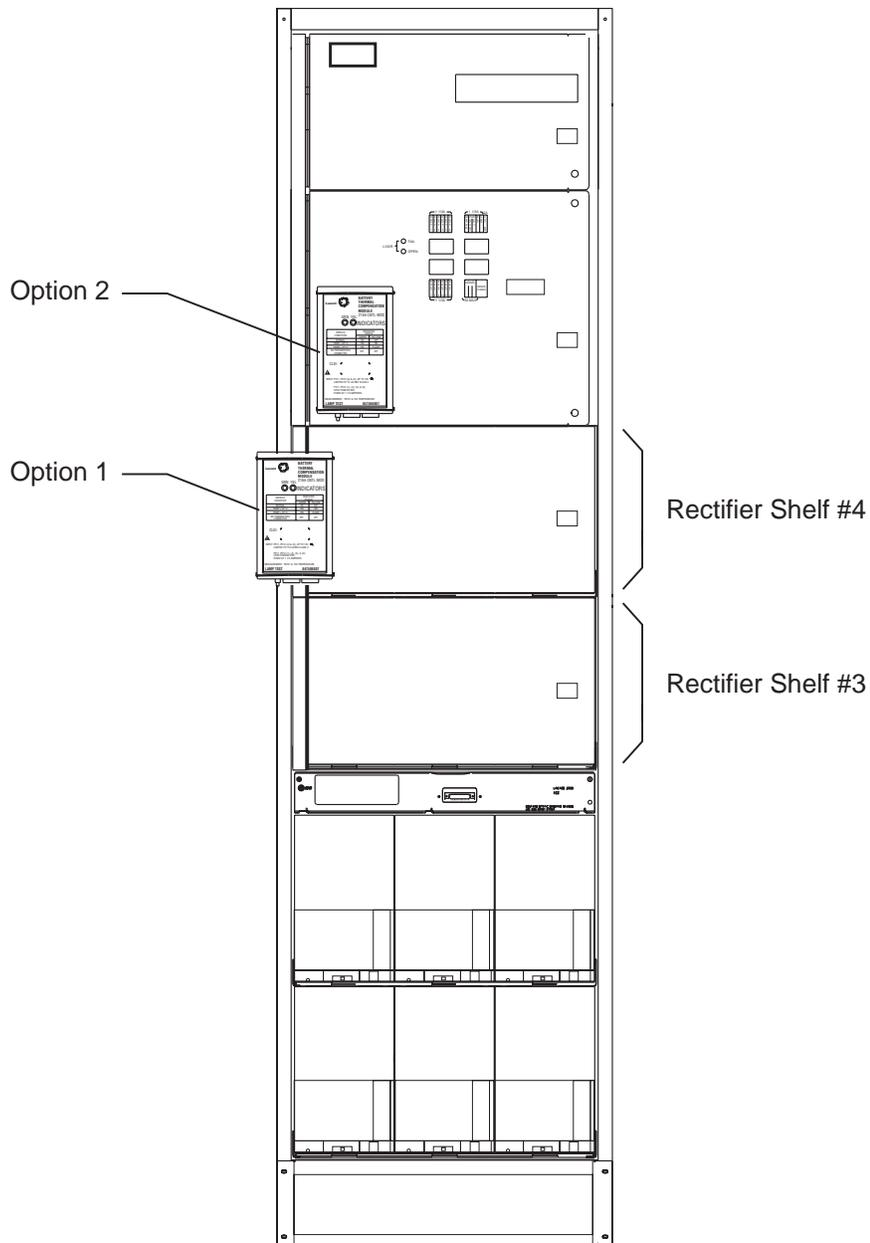

Figure 5-13: Placement of Control Unit in Framework
1. For use with Lucent VR Batteries: Mount the VR Module bracket to any one of the available x - 20 Pem-nuts in the battery stand upright. Then attach the Terminal Block Assembly Base to the VR Module bracket with the 10-32 screws provided. (See Figure 5-13.)
Option 1: Mount the VR Module bracket to the plant framework (List 1 or List 20) in an unused end rectifier position using the two 10-32 screws that have been provided. Consider further plant growth (rectifier shelves/rectifiers) before choosing this option. (See Option 1 on Figure 5-13.)
Velcro hooks and affixing to the distribution door. Make sure the back surface of the Terminal Block Assembly is clean before peeling the backing off the Velcro loops and affixing to the Terminal Block Assembly. Mount the Terminal Block Assembly on the distribution door. Consider the protrusion of the 216 Control Unit before choosing this option. (See Option 2 on Figure 5-13.)
17. Locate the INFORMATION label (Comcode 847754835) approximately as shown in Figure 5-13 to cover the original label.